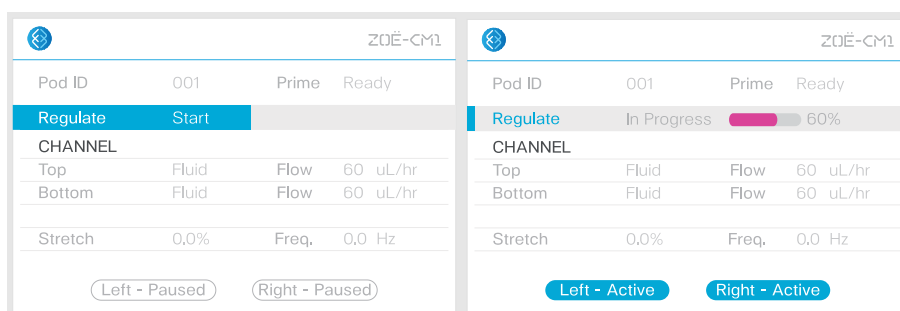

Figure 12: Zoë UI while running Regulate Cycle
- Run Regulate Cycle (See Figure 12)